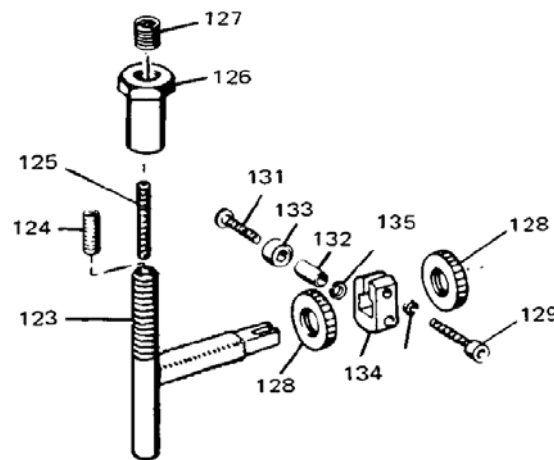

Figure 3-1. Exploded View of High Speed Adjustment
3. Initially position the high speed adjusting set screw (125, Figure 3-1) so that upper end is flush with top of the T-shaped speed setting screw (123).
- b. If the required high speed is reached before control air pressure is adjusted to the required maximum value, move the ball bearing pivot bracket (fulcrum) (134, Figure 3-1) toward the speed setting cylinder to decrease the governor speed range in relation to the control air pressure range.
- c. Turn the high speed adjusting setscrew 125, Figure 3-1) in the speed adjusting screw 123 cw until it just contacts the high speed stop pin. If the setscrew is turned too far, prime mover speed will decrease.